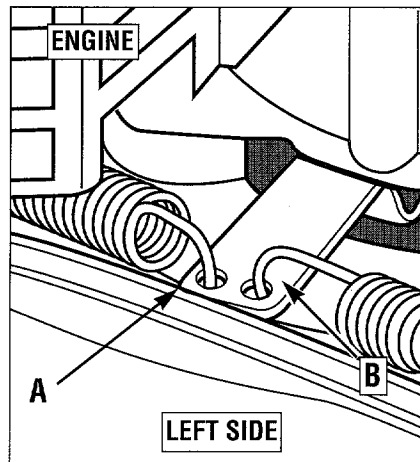
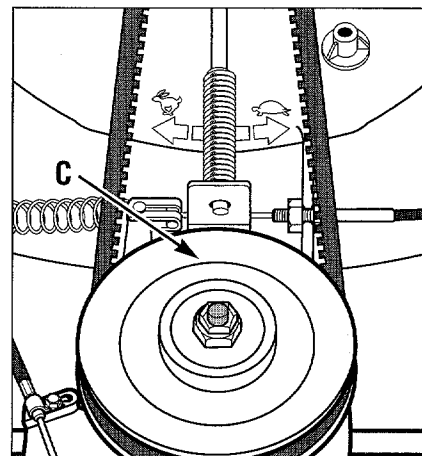

Figure 5-11: Remove Blade Brake Control spring and cable.
Figure 5-12: Press down rear of pulley to remove drive belt.
A. Using needle nose pliers, remove the spring (A, Figure 5-11) from the Blade Brake Control mechanism.
B. Remove the other Blade Brake Control spring (B) and cable.
C. Remove tension on the drive belt by pressing down (hard) on the rear of the drive pulley (C, Figure 5-12). Slip the belt off the pulley.
L. Tilt the rear of the wheel drive pulley (**C**, Figure 5-12) toward the engine and install the belt on the pulley.